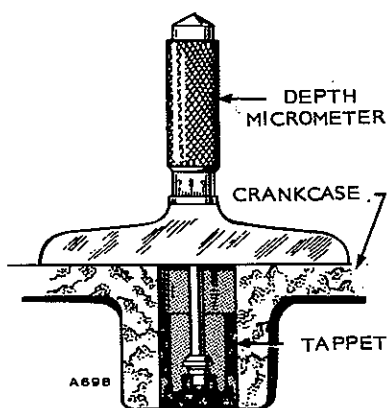

FIGURE 9-6. MEASURING WITH DEPTH MICROMETER
The most accurate method of injection pump timing is with a depth micrometer, Figure 9-6. However, if a depth micrometer isn't available, time it by *Flowing the Pump*.
1. Install pump tappet in its recess and position flywheel port closing mark (PC) at timing pointer on compression stroke.
2. Using a depth micrometer, measure distance from pump mounting pad on crankcase to tappet center, Figure 9-6.